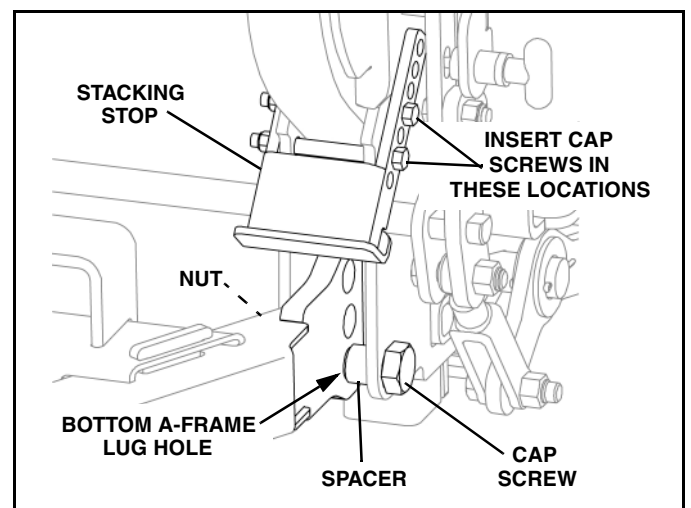

Figure 1-10
a. With a dimension of 8" to 9", the bottom A-Frame lug holes are used to connect the A-Frame to the Lower Light Lift Bar (LLL) frame. Insert the cap screw (from the outside) through the LLLB frame, spacer, A-Frame lug bottom hole and LLLB frame. Secure with nut. Position the Stacking Stop as shown and secure with two cap screws and nuts as shown. Repeat this step for the opposite side. (See Figure 1-10) Proceed to Step 10.